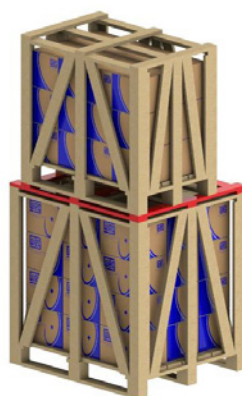

Figure 29 - Use of additional battens for stacking
4) When stacking smaller crates onto longer crates, always ensure that suitable wooden supports are provided to withstand the weight (see Figure 29). This condition usually occurs with motor packaging above IEC 225S/M (NEMA 364/5T) frame sizes.